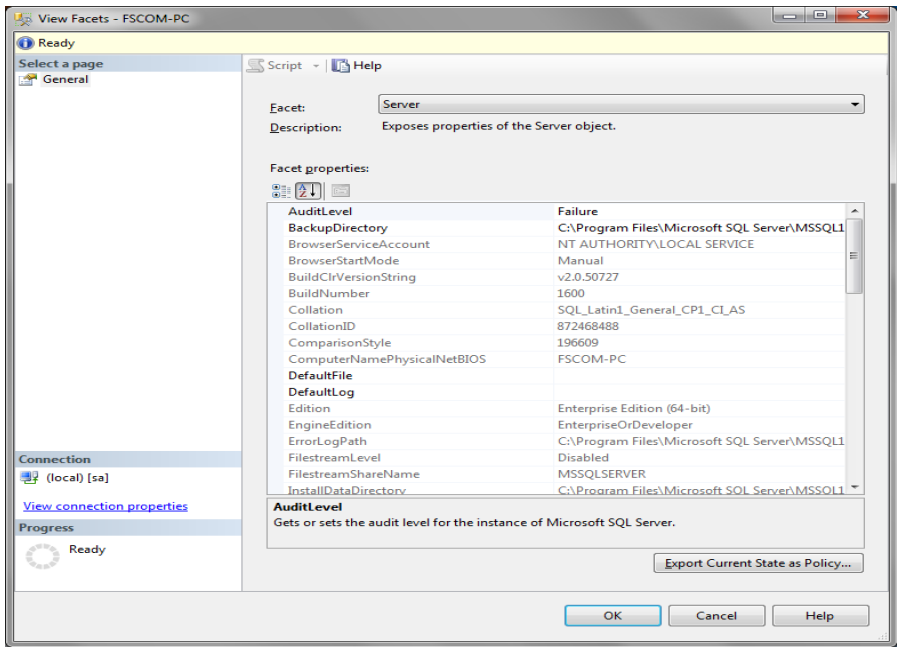

Fig.1.8 View Facets
**Step Eight:** Choose “Server Configuration” from the drop-down box of facet and set the properties of “Remote Dac Enabled” as “true”, then click “OK” button (see Fig.1.8).